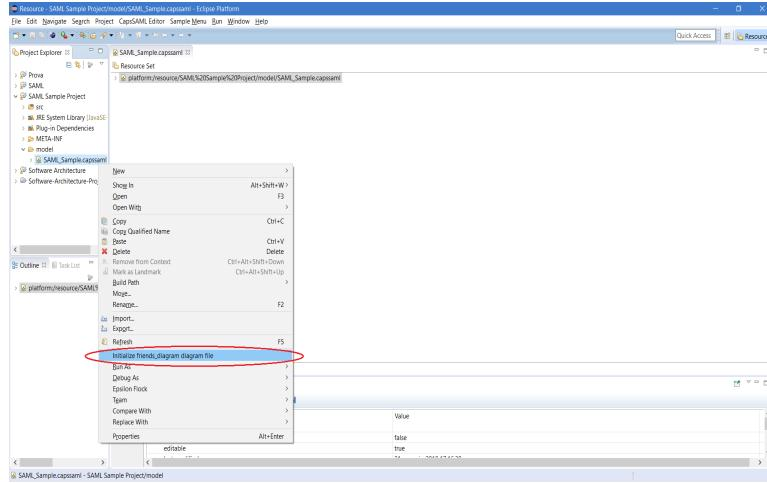

Figure 2.7: Initialize the diagram
- From the project explorer on the left, right click on the new file that have been created and select **Initialize friends\_diagram diagram file**. This will let you to create the SAML diagrams (figure 2.7);